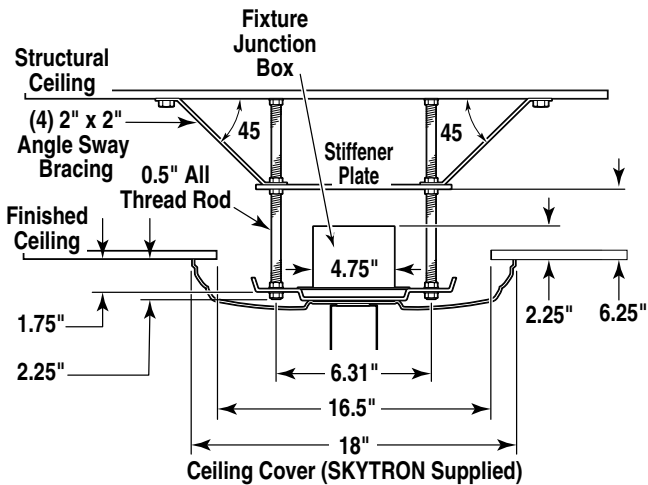

Figure 1. Mounting Structure
1. Check the strength and stability of the mounting structure. See figure 1. The four 1/2" diameter threaded rods should be securely mounted to the ceiling for total support of the fixture. These rods are mounted in a 6-5/16" square pattern and should extend 2.25" below the finished ceiling. Refer to Mounting Structure Guideline on page 7.
3. Install the mounting hub assembly on the threaded rods between the jam nuts. The bottom of the mounting hub should be 1-3/4" from the finished ceiling (see figure 1) for proper ceiling cover fit.